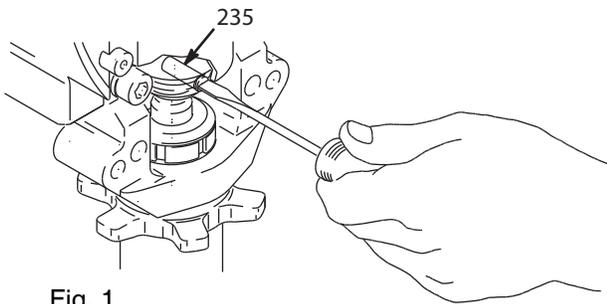
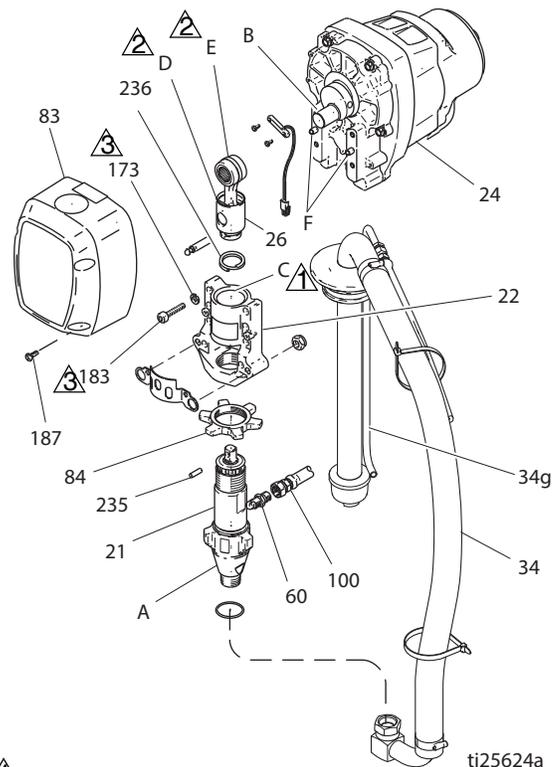

Fig. 1
Fig. 2
- 2 Fig. 2. Remove screws (187) and front cover (83).
- 3 Unscrew suction tub (34) from pump, hold wrench on pump intake valve (A) to keep pump from loosening.
- 4 Disconnect pump outlet hose (100) from displacement pump outlet nipple (60).
- 5 Fig. 1. Use screwdriver to push up retaining spring (236) at top of pump. Push out pin (235).
- 6 Fig. 2. Loosen retaining nut (84). Unscrew and remove displacement pump (21).
- 7 Remove four screws (183) and lock-washers (173) from bearing housing (22).
- 8 Pull connecting rod (26) and lightly tap lower rear of bearing housing (22) with plastic mallet to loosen from drive housing (24). Pull bearing housing and connecting rod assembly (26) off drive housing.
- 9 Inspect crank (B) for excessive wear and replace parts as needed.
- 5 Install screws (183) and lock-washers (173) on bearing housing. Torque evenly, referencing note 3 value in Fig. 2.